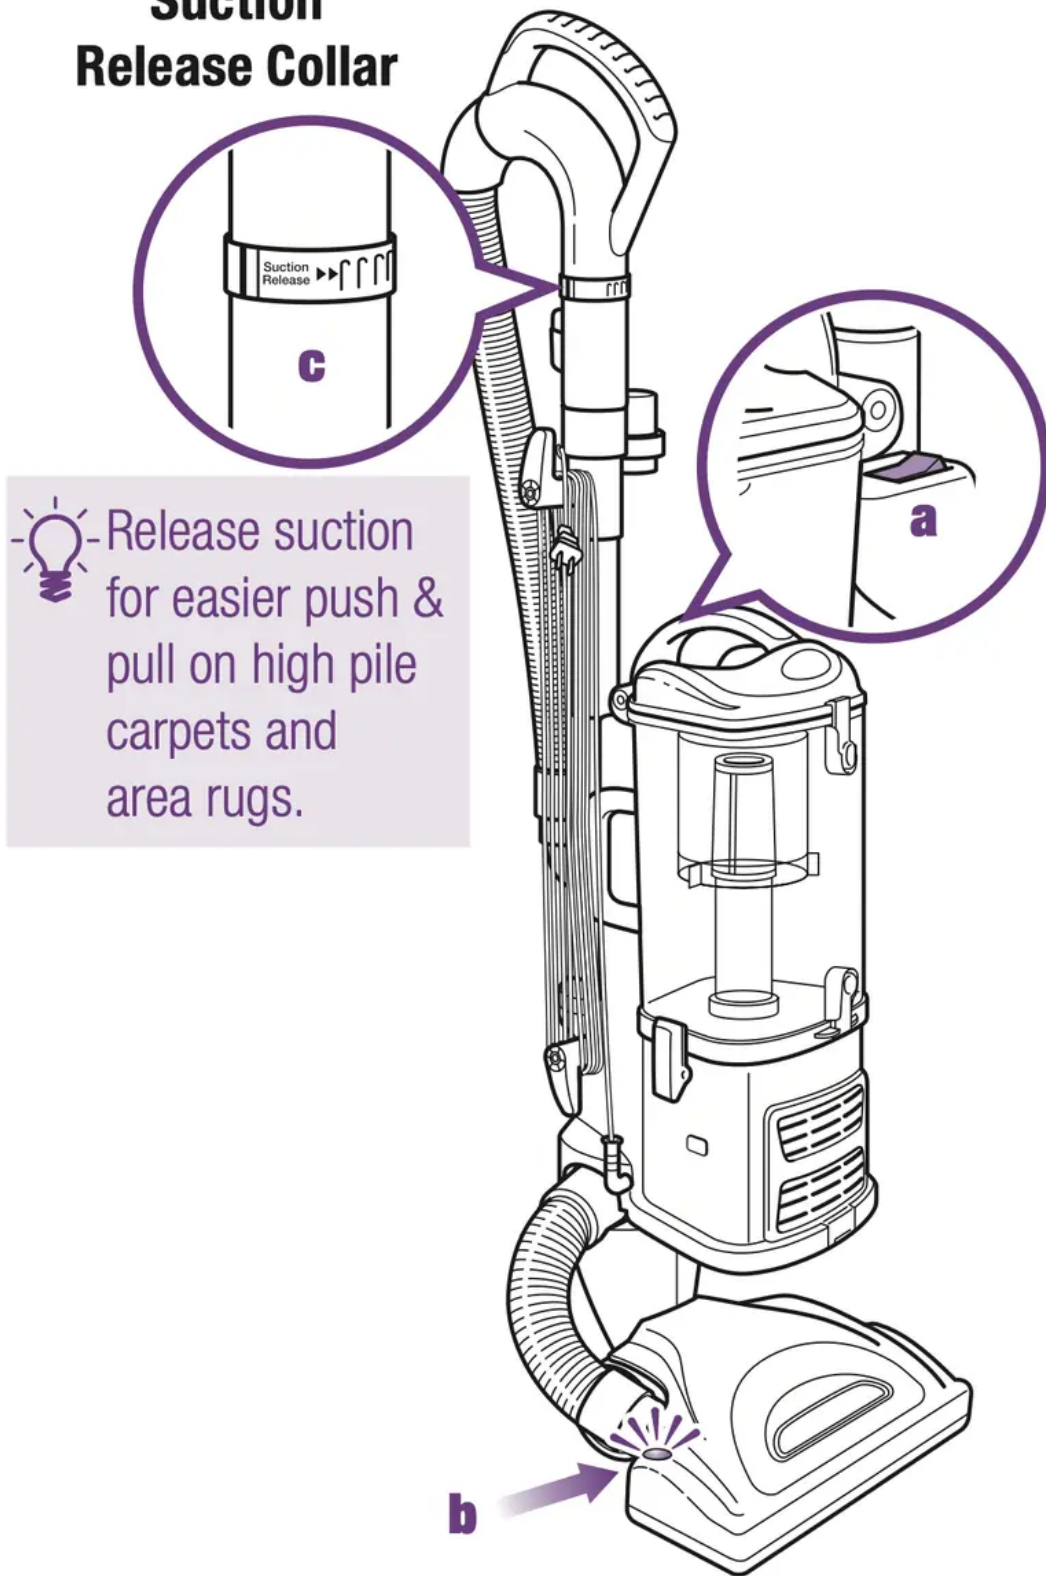

Fig. 12
3. Press the On/Off switch (a) to the “|” position to vacuum bare floors (straight suction only) or to the “||” position to engage the motorized floor brush (for vacuuming carpets and rugs). (Fig. 12)
IMPORTANT: The motorized brush indicator light (b) will illuminate green when motorized floor brush is on, or red if there is a blockage or jam. (Fig. 12) This feature is designed to protect your Lifetime Belt that powers your motorized floor brush. See
5. Due to the huge suction power of this vacuum, it may become necessary at times to adjust the suction release (c) on the handle. (Fig. 12) If the vacuum seems difficult to push or pull or if it is lifting up area rugs, adjust the suction release by rotating the collar